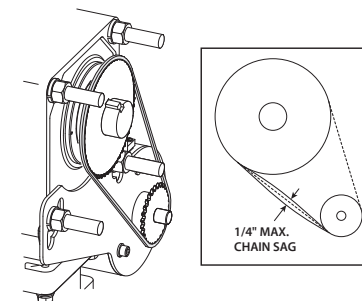

Figure 9-B
- Check chain tension, max sag is 1/2", **Figure 9-B.**